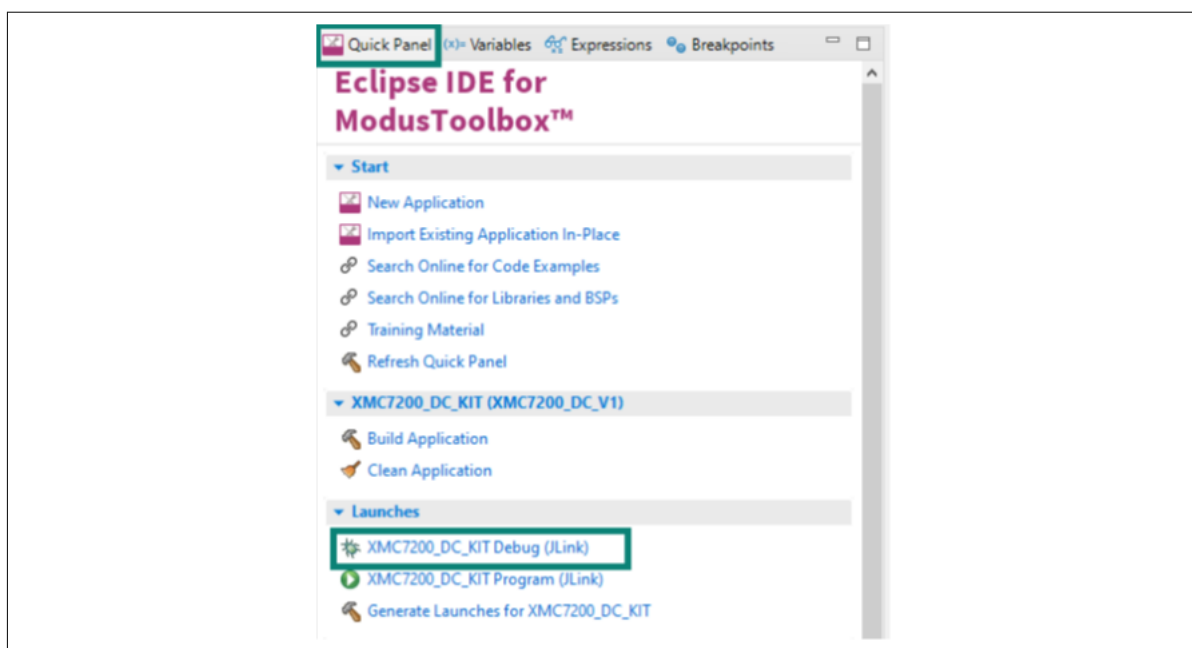

Figure 13 Debugging in the ModusToolbox™ software
5. The ModusToolbox™ software has an integrated debugger. To debug a XMC7200D application, in the Project Explorer, select **<App_Name>** project. In the Quick Panel, scroll to the **Launches** section and click the **<App_Name> Debug (JLink)** configuration as shown in Figure 13. For more details, see the “Program and debug” section in the Eclipse IDE for ModusToolbox™ user guide.